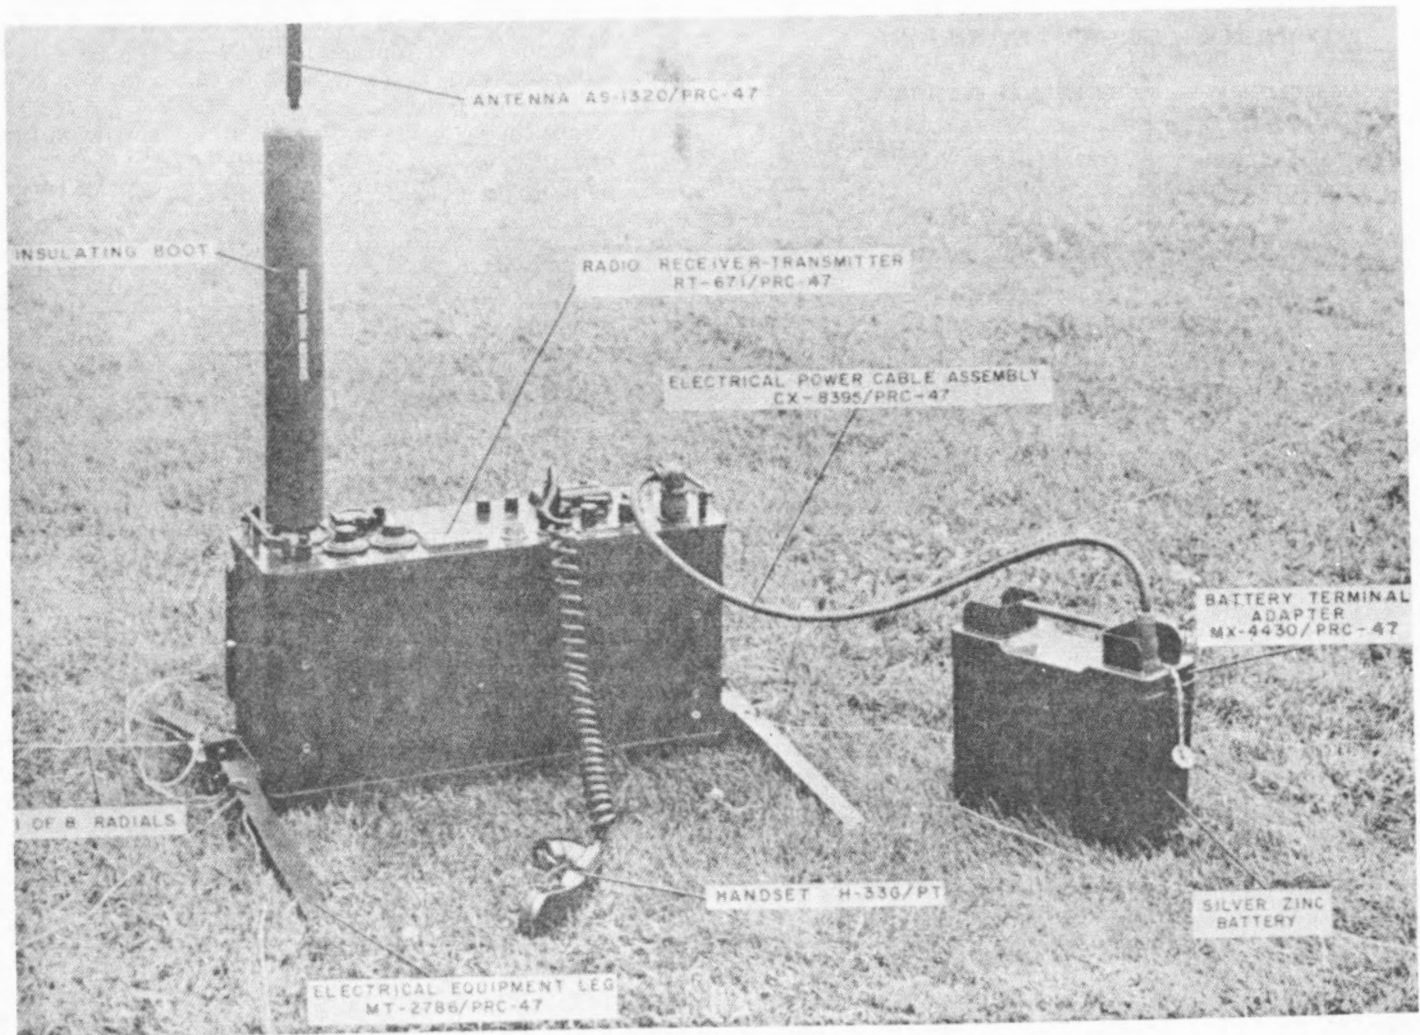
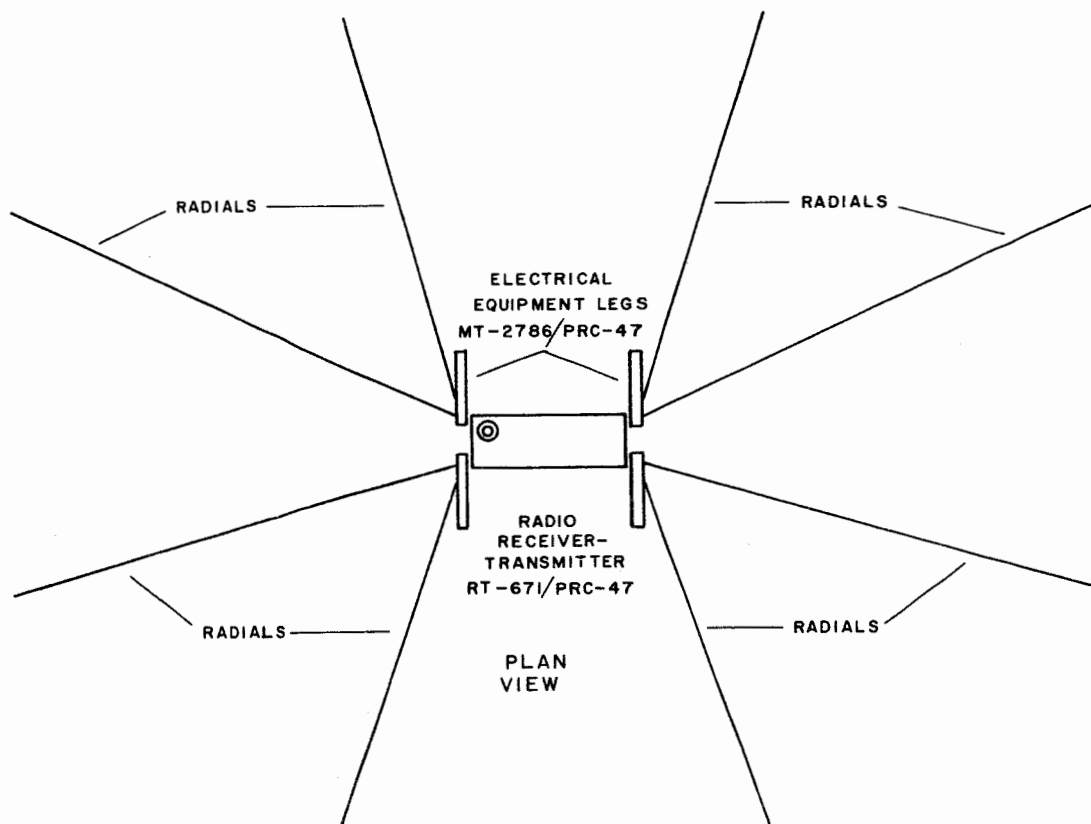

Figure 1-1. Radio Set AN/PRC-47 Operating Setup
Figure 1-2. Radio Set AN/PRC-47 Field Setup, Plan View, Radial Placement
This manual contains equipment description and instructions for; preparation for use and stowage, operation, principles of operation, trouble shooting, and repair for Radio Set AN/PRC-47 (figure 1-1).
a. PURPOSE OF EQUIPMENT. - Radio Set AN/PRC-47 (hereinafter referred to as the radio set) is a complete portable high-frequency communications system including antenna and accessories. The radio set provides continuous wave (CW) and upper sideband (USB) voice transmission and reception in 1-kilocycle increments over the frequency range of 2 to 11.999 megacycles. The equipment is also capable of frequency shift keying (FSK) communication when operated in conjunction with a frequency shift keying converter. The radio set may be operated at its own control panel or from a remote control panel.
b. EQUIPMENT APPLICATIONS. - The radio set may be used in portable, vehicle, and fixed station applications. In the portable application, the complete equipment can be packed by two men. For this application, the radio set is powered by a 24-volt battery which is part of the equipment. For mobile application, the equipment is mounted in a suitable vehicle (for example; truck, 1/4-ton 4 x 4 M38A1) and is powered by the vehicle's 26.5-volt d-c generator. For fixed station application, the equipment may be powered by a 115-volt, single-phase, 400-cps power supply. Figure 1-1 shows a field setup of Radio Set AN/PRC-47, and figure 1-2 shows placement of radial wires.
f. ELECTRICAL EQUIPMENT LEGS MT-2786/PRC-47.- Electrical Equipment Legs MT-2786/PRC-47 (see figure 1-1) are included with the radio set to support the receiver-transmitter or to prevent tipping when Antenna AS-1320/PRC-47 is used in high winds. The electrical equipment legs attach to each end of the receiver-transmitter, as shown in figure 1-1, and are adjustable to compensate for uneven ground conditions.
unwound and spread out in a radial pattern. Also, a short wire with a pin terminal is connected to the ground plane wires wound on each MT-2786/PRC-47. Each pin is inserted into a spring-loaded grounding terminal at each end of the control panel, connecting all ground plane radials to the panel. Refer to figure 1-2 for positioning of ground plane radials.